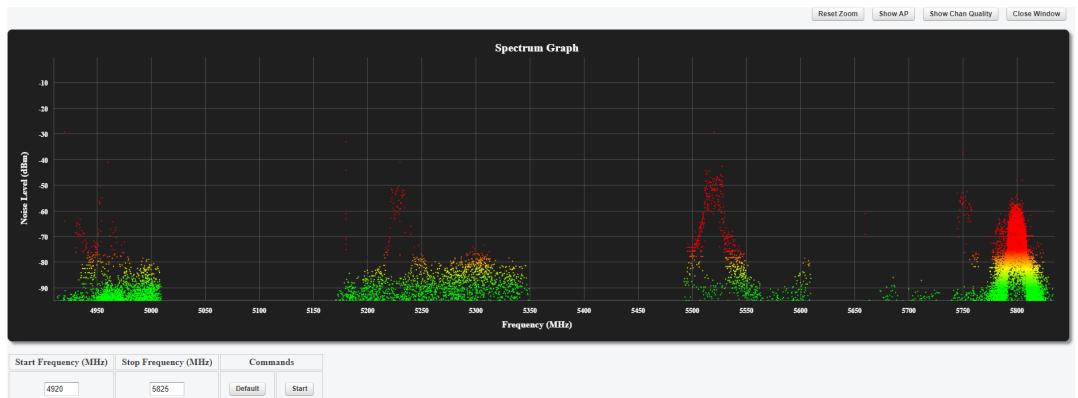

Figure 29. Spectrum Graph window (typical display)
- The **Spectrum Graph** window will open in a new web browser tab (Figure 29 \(page 69\)).